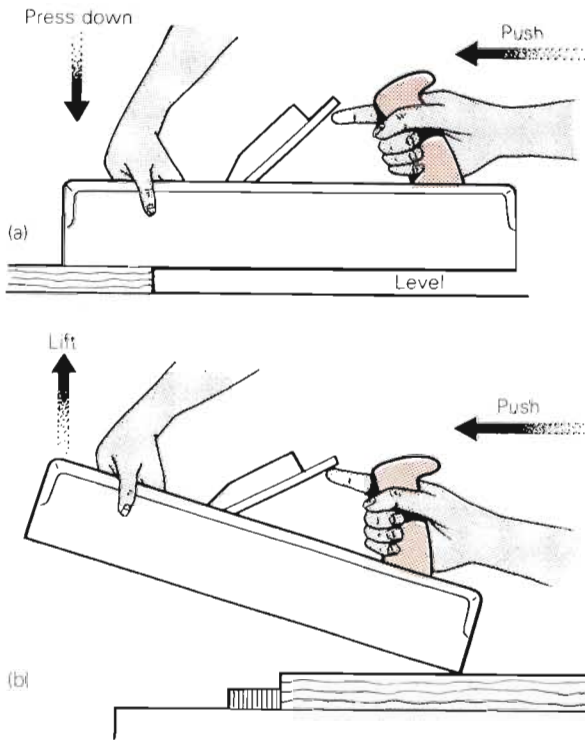

Figure 5.4 Positions when planing: (a) starting, (b) finishing.
4. Press down the plane and begin the stroke from the very end of the board to the other, maintaining the same pressure throughout (Figure 5.4). Plane the whole surface and check for straightness by laying the edge of a try-square or a straight edge along the surface. If the surface is straight, the edge of the try-square will touch all the surface. Check in several positions. When the face is judged to be straight, put the face side mark on it (Figure 5.3d).